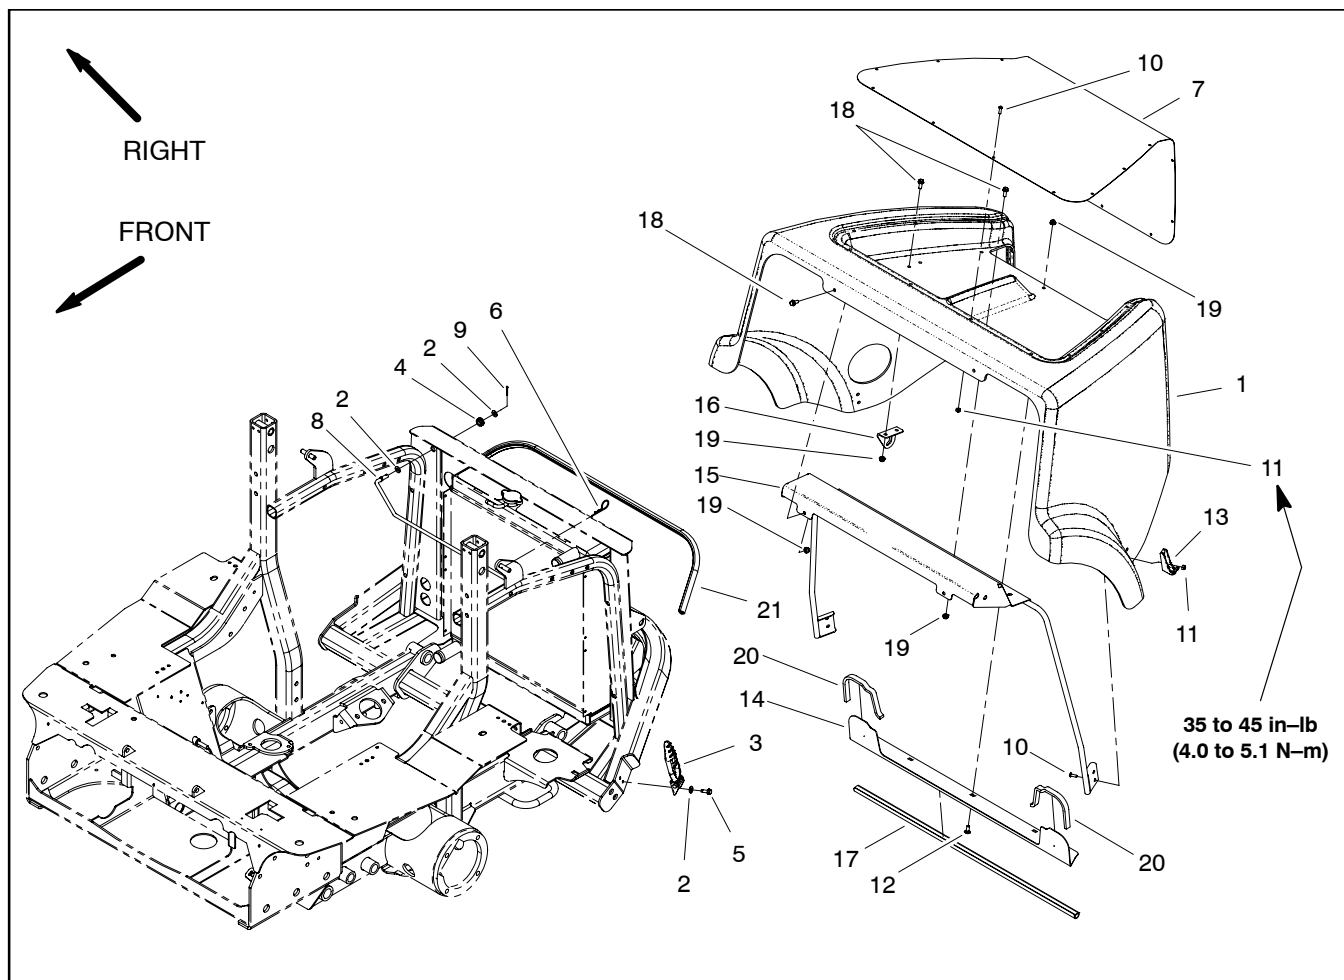

Figure 31
### Removal (Fig. 31)
3. Remove hair pin cotter (item 6) from left side frame rod.
6. If necessary, remove hood components using Figure 31 as a guide.
### Installation (Fig. 31)
1. Install all removed hood components using Figure 31 as a guide. If intake screen was removed from hood, make sure that hood support, seal angle and prop rod support are attached to hood before installing screen. Secure screen to hood with screws and lock nuts. Torque fasteners that secure screen from **35 to 45 in-lb (4.0 to 5.1 N-m)**.
4. Secure hood to frame rods with hair pin cotter (item 6).